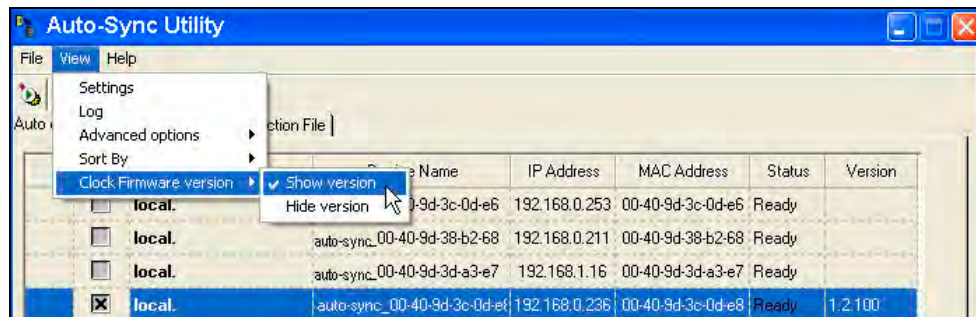

Figure 5-22. Show Firmware Version.
- **Clock Firmware version** – Use this function (see *Figure 5-22*) to show the clock firmware version in the list of discovered Auto-Sync Time Clocks. If left on Hide, the list will be generated without listing the version for the discovered clocks.